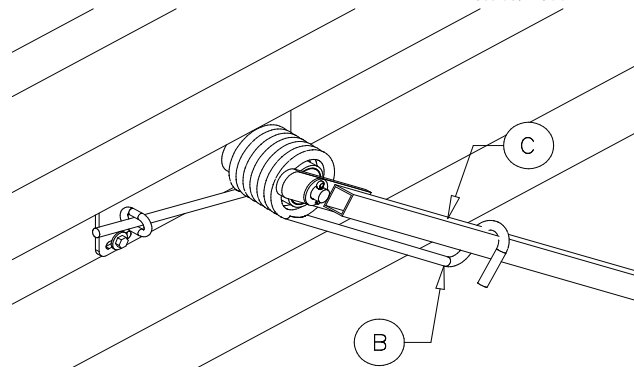

Figure 16
**Note:** The bottom pivot arm (C) may have to be shortened depending on the length of the box.
Position the bottom pivot arm (C) so it is hooked in the helical torsion spring (B) (see Figure 16).